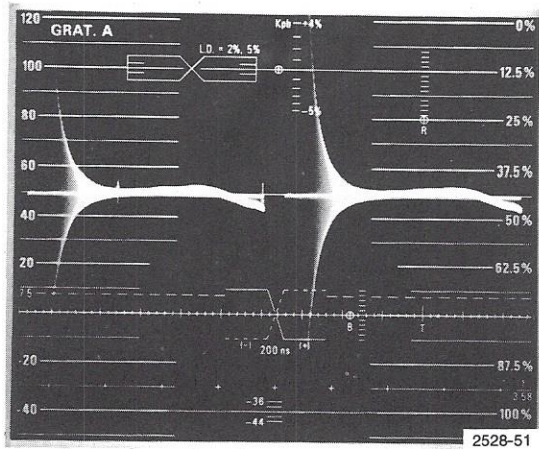

Fig. 4-18. Checking high-frequency symmetry around the pedestal axis. Waveform monitor Response switch set to IRE.
d. READJUST—R349 (see Fig. 8-2) slightly for best high-frequency symmetry around the pedestal axis. See Fig. 4-18.